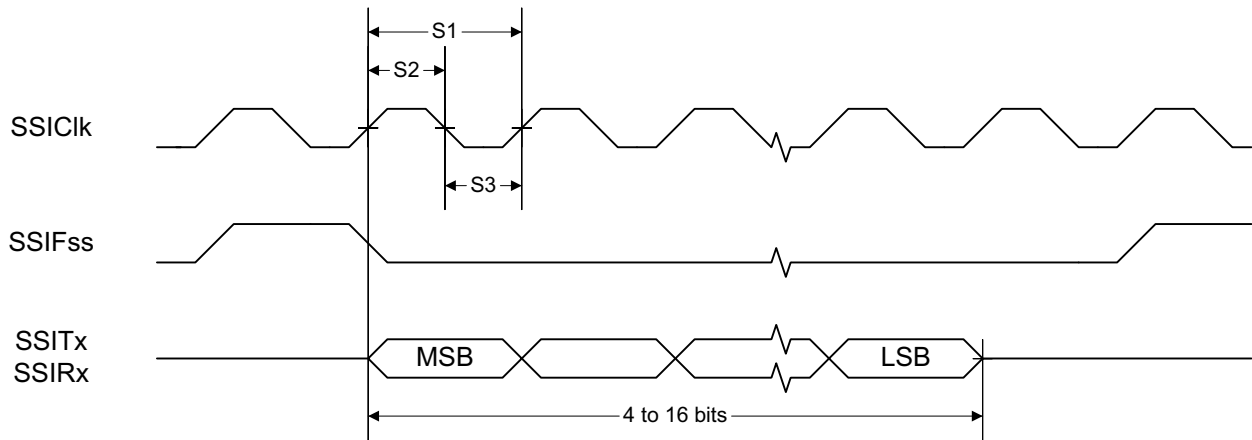

Figure 8-1. SSI Timing for TI Frame Format (FRF = 01), Single Transfer Timing Measurement
- (1) Refer to SSI timing diagrams Figure 8-1, Figure 8-2, and Figure 8-3.
- (2) When using the TI-provided Power driver, the SSI system clock is always 48 MHz.